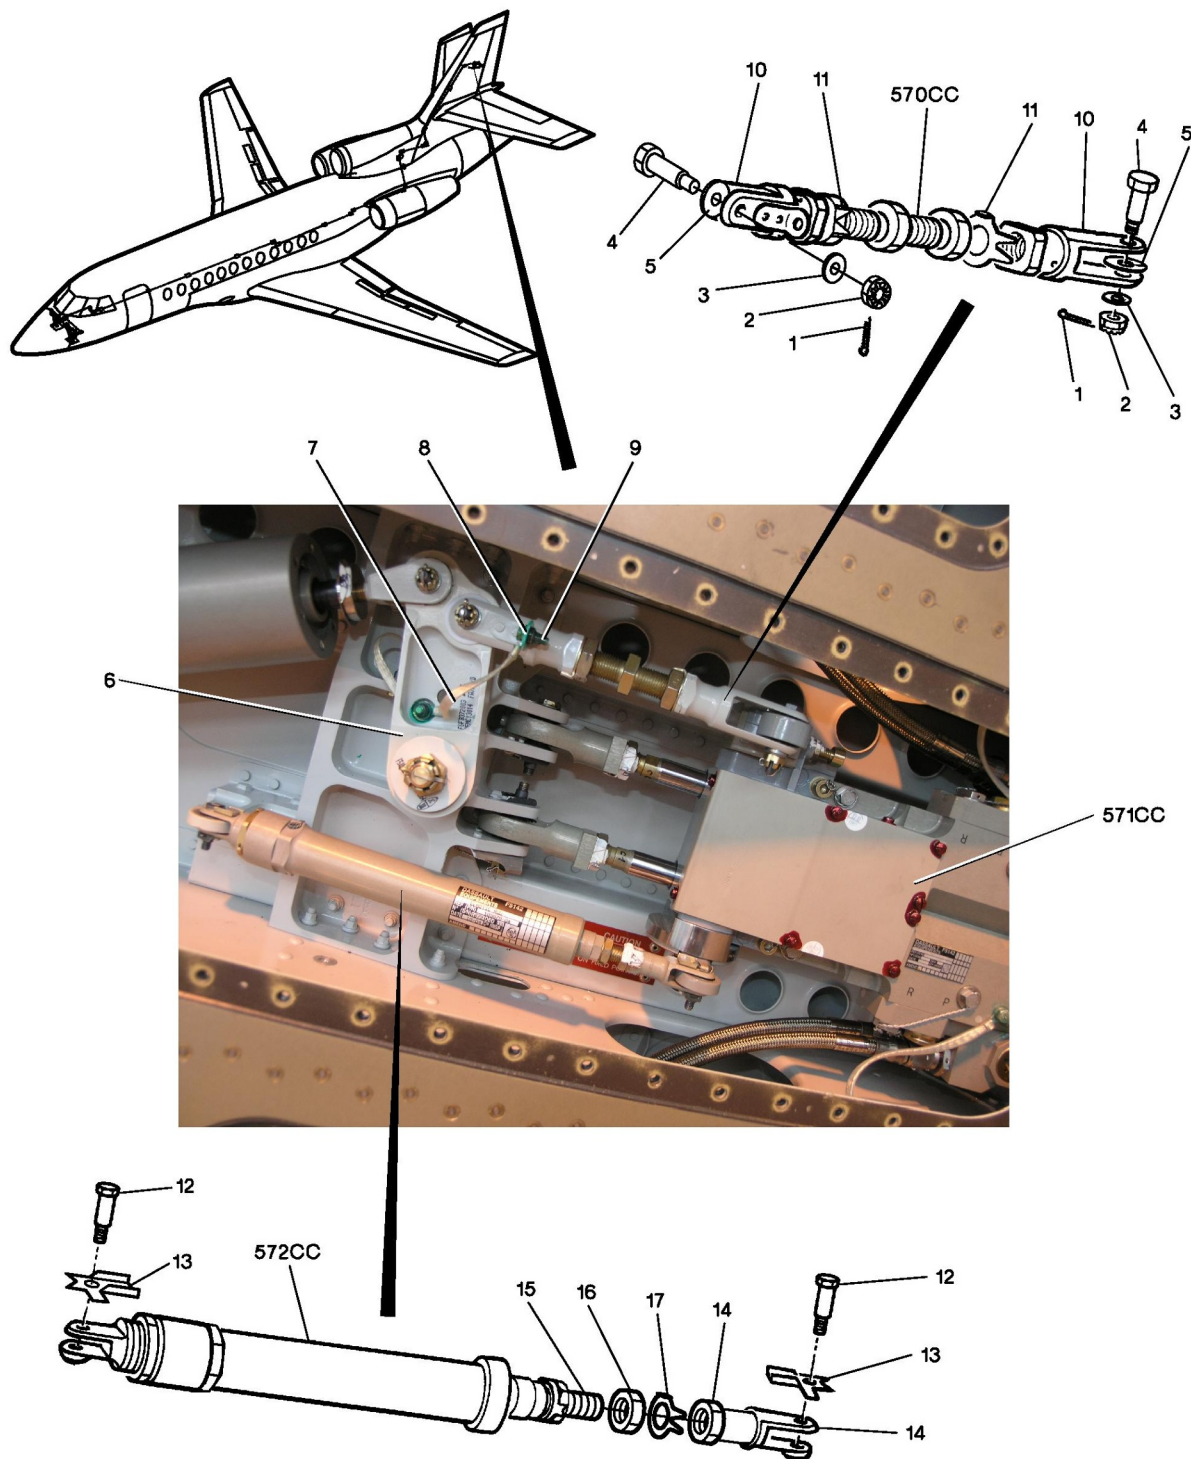

Figure 2: Removal/Installation of Components at Servo-actuator
- (2) Connect the couplings of removable hydraulic hoses (S1) and (R1) to the A/C side rigid couplings (through access door (**323FL**)).
- (3) Safety the removable hydraulic hose couplings (S1) and (R1) to each other with **lockwire** (MS20995C32).
- (4) Connect the couplings of removable hydraulic hoses (S2) and (R2) to the A/C side rigid couplings (through access door (**323DL**)).
- (5) Safety the removable hydraulic hose couplings (S2) and (R2) to each other with **lockwire** (MS20995C32).
- D. Connection of yaw AAFU (**572CC**) to servo-actuator input lever (**fig. 2**)
- (1) Using an oil can filled with **lubricating oil**, lubricate attaching pin (12).
- (2) Install a new tabwasher (F50B331101201A1) (13).
- (3) Install attaching pin (12).
- NOTE 1: Attaching pin (12) must be installed with its head upwards.
- NOTE 2: Tabwashers (13) must not be bent. Safetying will be performed when installing the yaw AAFU permanently on A/C (after the adjustment/tests (Refer to **TASK 27-20-00-820-801**, paragraph "Adjustment/Tests with Hydraulic Systems Pressurized)).
- E. Connection of rudder servo-actuator drive rod (**570CC**) to servo-actuator drive lever (**fig. 2**)
- (1) Using an oil can filled with **lubricating oil**, lubricate attaching pin (4).
- (2) Install anti-swiveling washer (5).
- NOTE: It may be necessary to replace the anti-swiveling Teflon washer (5) (MY20270-001).
- (3) Install attaching pin (4).